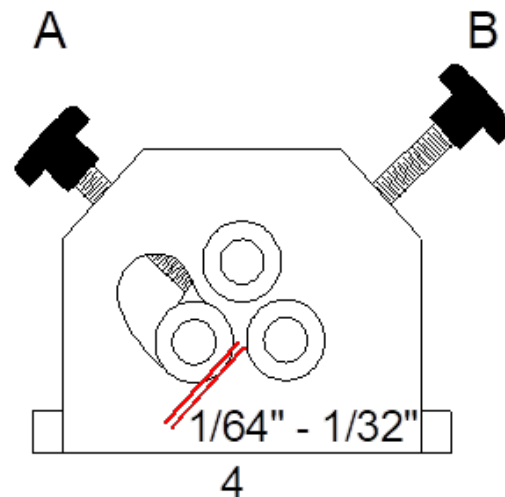

Figure 6-4
- Loosen the pressure knob "B" so that the pinch roll is about $1/64"$ – $1/32"$ away from the lower stop point as shown in figure 6-4.